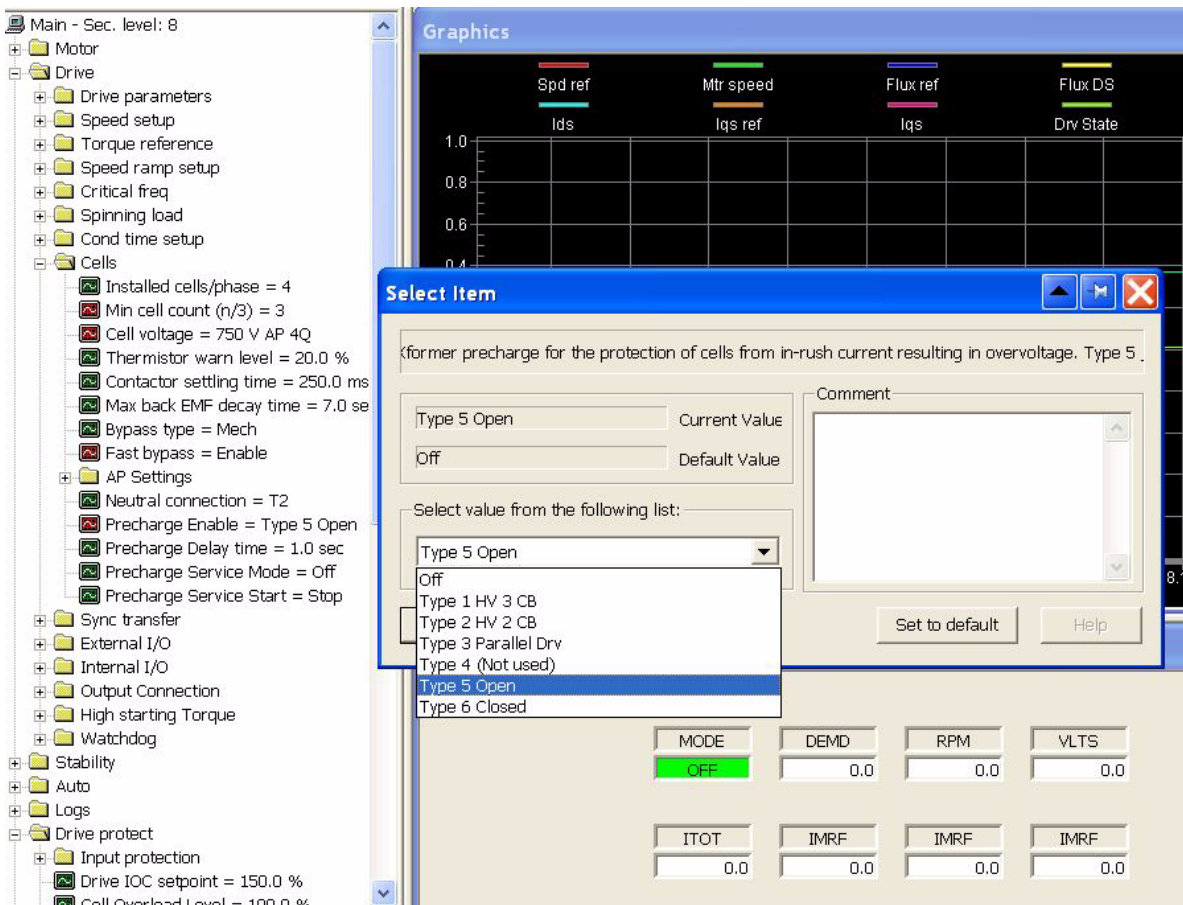

Figure 5-38: Selecting Type 5 Open from Pick List
- Precharge Enable (ID 2635 in Cell Menu) to “Type 5 Open” (see Figure 5-38)